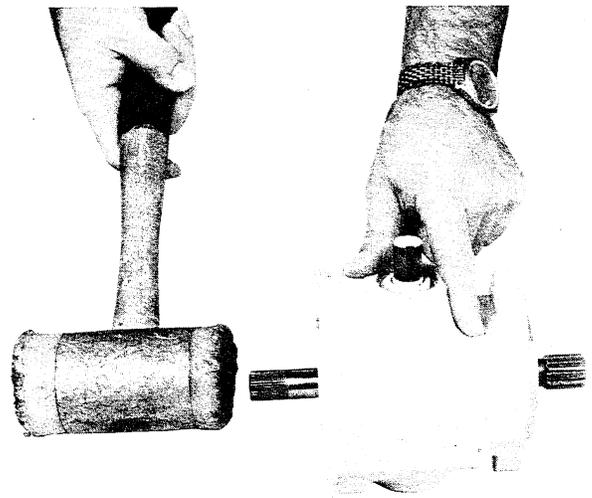

FIGURE 31
17. Use an arbor press to remove the shaft, oil seal, and thrust bearing out of the housing. Figure 31 shows the use of a soft hammer to remove the shaft. **Replace the thrust bearing and two races if a hammer is used for shaft removal as the thrust bearing can be damaged.**